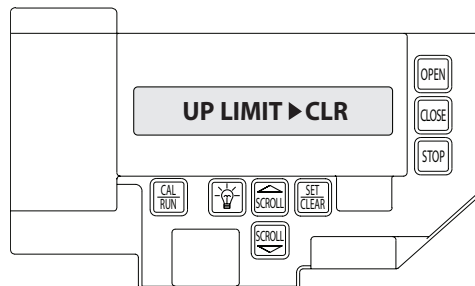

Figure 7
- 2) Press SCROLL  (up or down) until display reads "UP LIMIT>CLR " or "DOWN LIMIT>CLR " **Figure 7.**